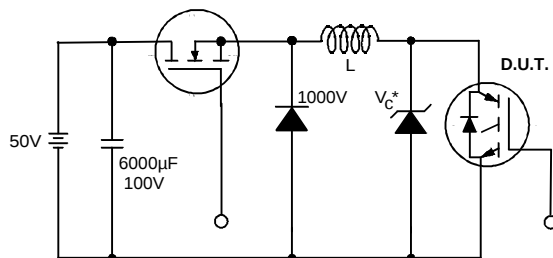

Figure 19. Clamped Inductive Load Test Circuit
- ② $V_{CC}=80\%(V_{CES})$, $V_{GE}=20V$, $L=10\mu H$, $R_G = 100W$ (figure 19)
- ③ Pulse width $\leq 80\mu s$; duty factor $\leq 0.1\%$.
- ④ Pulse width 5.0 μs , single shot.
- ⑤ This only applies to TO-262 package.
- ⑥ This applies to D²Pak, when mounted on 1" square PCB (FR-4 or G-10 Material).